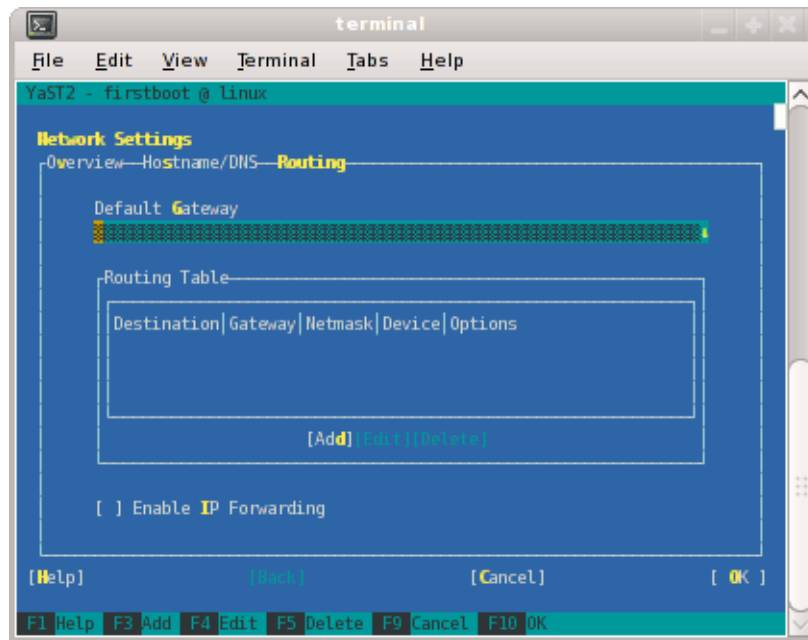

Figure 2-8 Network Settings Routing Screen
11. Select **Routing** shown in Figure 2-8 on page 43 and enter your house/public network default router information there. Now you can select **OK**.